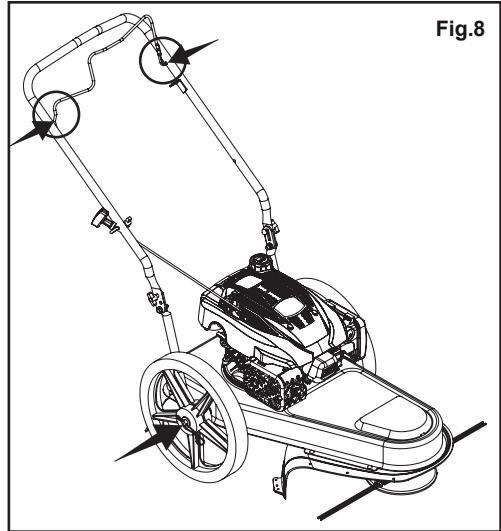

Fig.8
1. Lubricate pivot points on the throttle handle at least once a season with light oil. This control must operate freely in both directions. **(See Fig.8)**
2. Lubricate the wheels at least once a season with light oil (or motor oil). If wheels are removed for any reason, lubricate surface of the axle bolt and inner surface of the wheel with light oil. **(See Fig.8)**